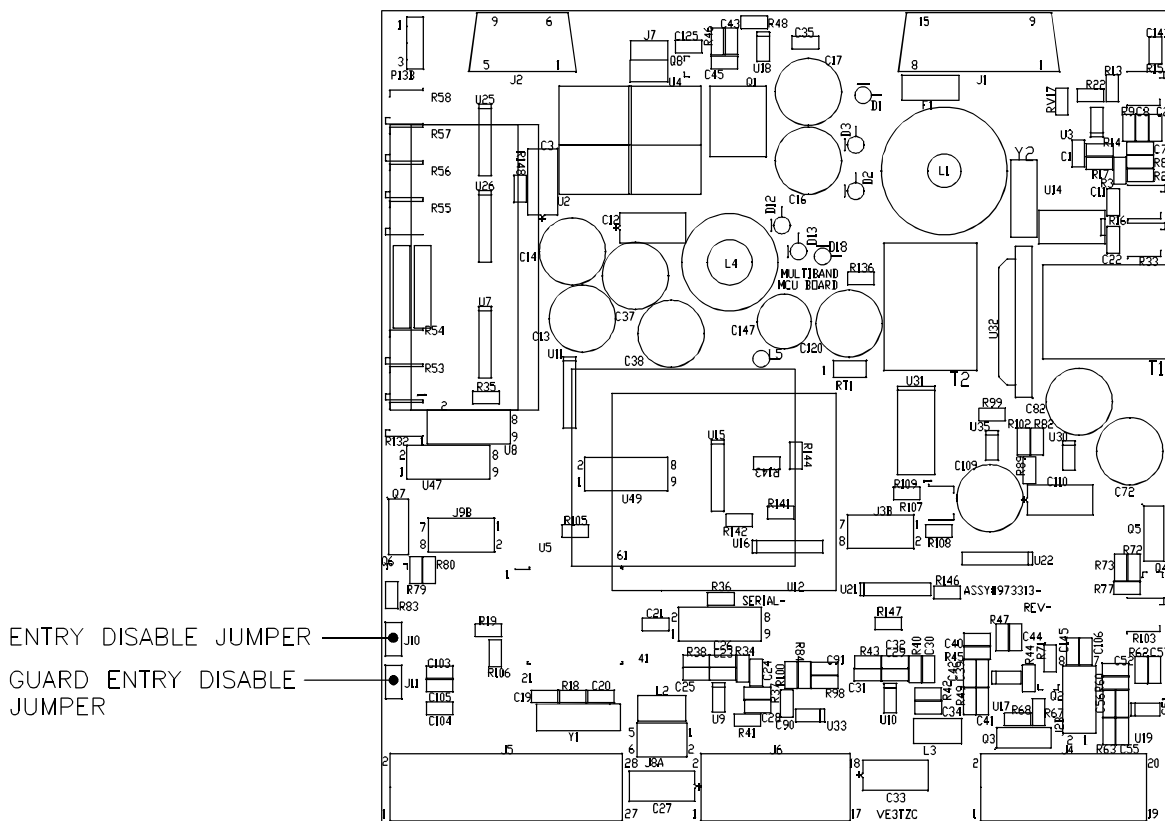

FIGURE 3-3 Internal Enable/Disable Jumper Locations
3. In low power mode, set the low power adjustment potentiometer on the left side of the chassis to produce 1.0 watt of RF output power (See Figure 3-3).